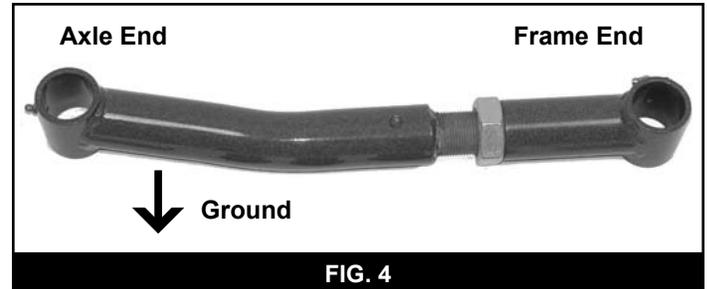

FIG. 4
30. Install new upper and lower control arms with OE hardware as shown in Fig 4. Do not tighten control arms at this time.